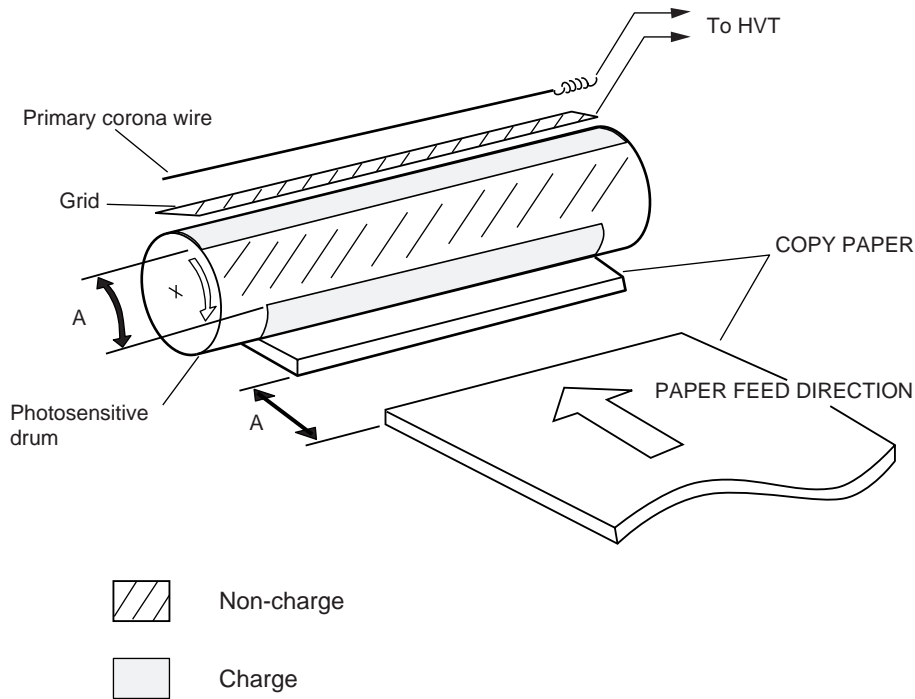

Figure 4-106
As shown in Figure 4-106, the machine keeps the grid bias at 0 V between sheets of copy paper (A), and exerts control so that charges will not be placed on the drum by sending primary charging corona current through the grid wire (GND).